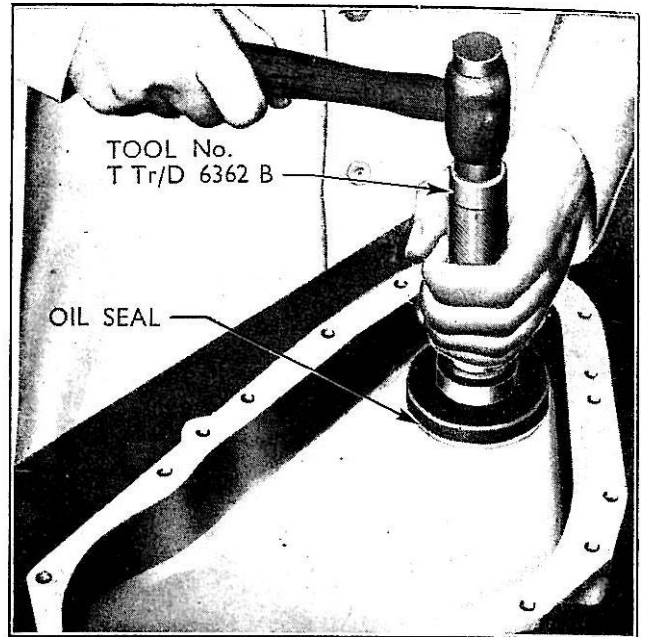

Fig. 67
- 3 Tap the new seal gently into position using the tool No. TTr/D 6362-B and a suitable mallet (see Fig. 67).